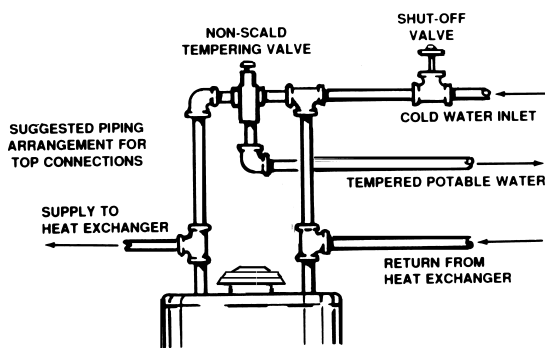

FIGURE 2
Refer to figure 1 for typical installation. A suitable pipe thread sealant must be used to prevent leakage. For WATER HEATING (POTABLE) and SPACE HEATING, figure 2.
4. When the system requires water for space heating at temperatures higher than required for domestic water purposes, a tempering valve must be installed. Please refer to Fig. 2 for suggested piping arrangement.